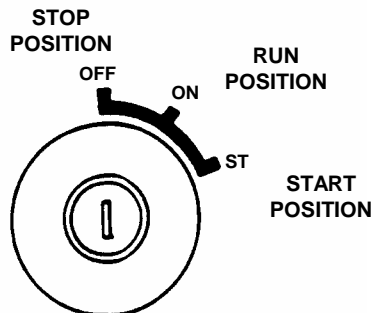

FIGURE 2.7
6. IMPORTANT: (Diesel Engine Only) Use the Glow Plug only if engine is cold or outside temperature is cold. Rotate key counter clockwise to the preheat position (GL letter designation on switch) to allow the glow lamp to heat up. Hold key in the Glow Plug position for a maximum of 5 seconds See Figure 2.7.
7. Rotate key clockwise to the start position until engine starts. See Figure 2.7.
1. Stop engine by turning key to the "OFF" position. Move engine speed control to turtle "SLOW" position and key to "STOP" position. See Figure 2.7.